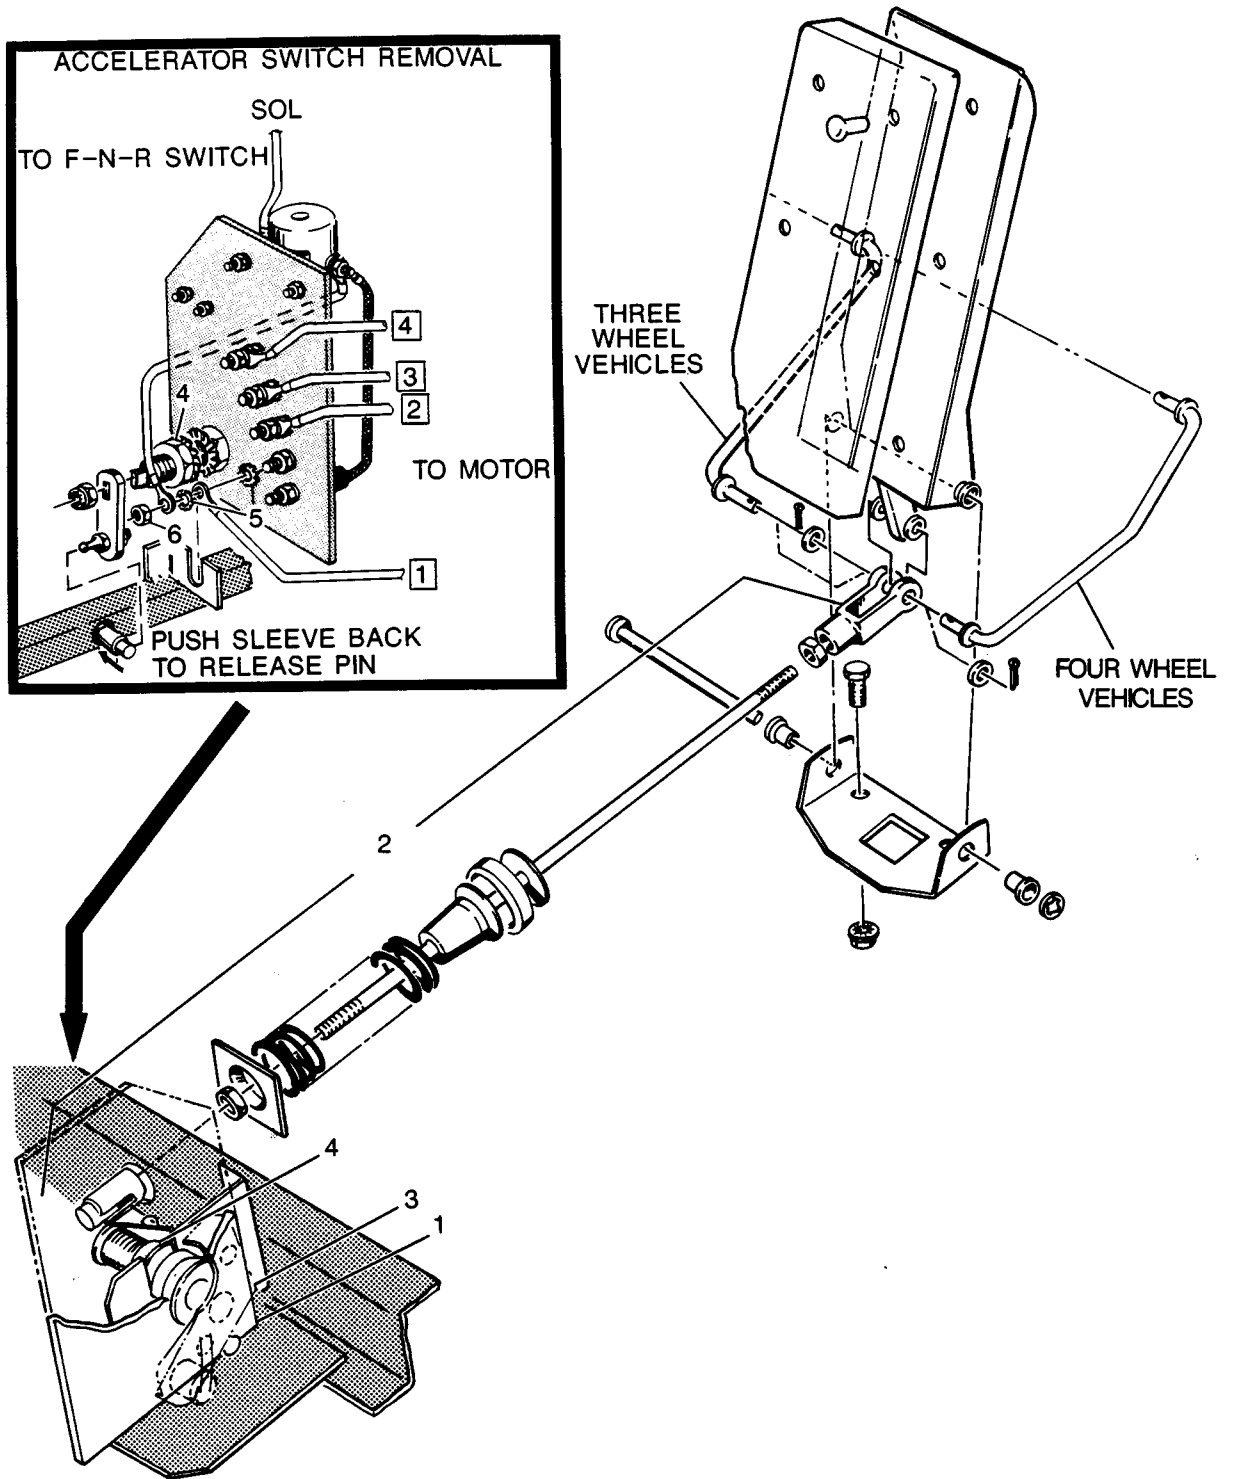

FIG. K-8 ACCELERATOR AND HILL BRAKE LINKAGE
**ACCELERATOR SWITCH REMOVAL (Fig. K-8)**